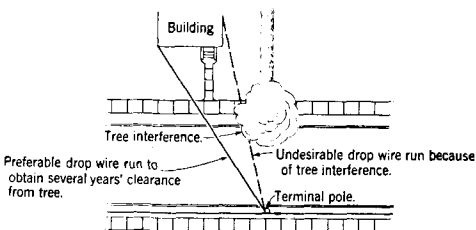

Fig. 1 — Avoiding Tree Interference by Proper Location of First Attachment on Building
2.02 Locating First Building Attachment — By carefully selecting the location for the first building attachment, as shown in Fig. 1 and 2, adequate clearance can frequently be obtained between drop wires and trees.